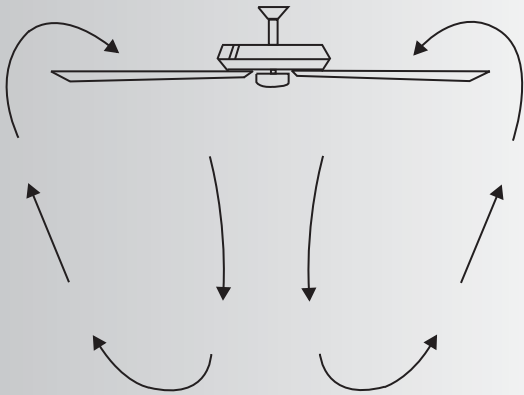

Fig. 18
**Warm Weather Operation:** Forward (counter clockwise) A downward airflow creates a cooling effect as shown in Fig. 18. This allows you to set your air conditioner on a warmer setting without affecting your general comfort.